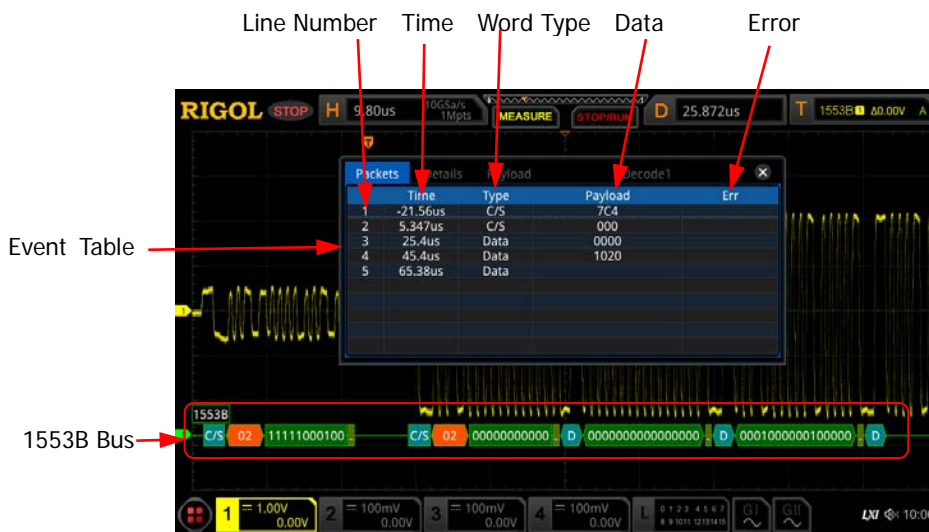

Figure 12-15 1553B Decoding Event Table
- Open or close the event table: Press **Event Table** continuously to enable or disable the event table. When you enable the event table, the following figure is displayed, as shown in Figure 12-15. You can also enable the touch screen to tap the icon  at the upper-right corner of the table to close the event table. Besides, when the operating status is "STOP", you can also rotate the multifunction knob  to select a specified line and view the corresponding decoding information.